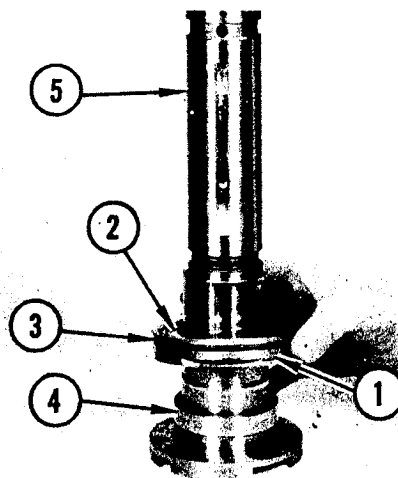

FIGURE 51. CLUTCH SHAFT DISASSEMBLY
Refer to Figure 51. Remove seal retainer (1). Remove oil seal (2) and "O" ring (3) from seal retainer. Remove collar (4) from shaft (5).